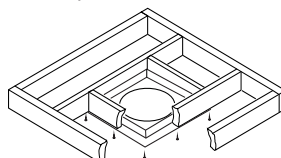

Figure 20 - Installing Firestop
1. Cut a 10 3/4" square hole in the ceiling using the locating hole as a center point. The opening should be framed to 10 3/4" x 10 3/4" (273 mm x 273 mm) inside dimensions, as shown in Figure 9 on page 10 using framing lumber the same size as the ceiling joists. If the area above the ceiling is an insulated ceiling or and attic space, nail firestop from the top side. This prevents loose insulation from falling into the required clearance space. If the area above the ceiling is a living space, install firestop below the framed hole. The firestop should be installed with no less than three nails per side (see Figure 20).